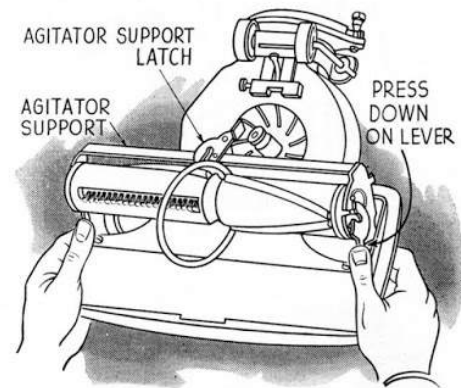

FIG. 80—Agitator support used on Models 575-725-750-800-825-900-925 and late Models 543 and 700
2. Figure 80 shows the type of support used on Models 575, 725, 750, 800, 825, 900, 925 and on Model 543 over serial number 4,092,000 and on Model 700 over 7,373,000.